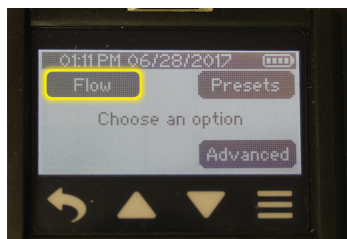

Figure 4. Multiple-tube Flow Rate Verification Train - Constant Flow
2. Press tubing from the outlet (unlabeled side) of a Constant Pressure Controller (CPC) onto the pump inlet (*Figure 4*).
3. Press tubing from the 224 Series Multiple-tube Low Flow Holder onto the CPC inlet (labeled "To Sample" - *Figure 4*).
4. Break tips off a representative sorbent tube and insert (arrow printed on tube pointing toward the pump) into the rubber sleeve of a 224 Series Multiple-tube Low Flow Holder (*Figure 4*). Repeat for additional tubes up to the maximum number of holder ports or desired number of tube samples. **Important! Fill unused tube holder ports with unopened sorbent tubes to keep ports clean during sampling.**
7. Use a length of flexible tubing to connect the exposed open end of the first port sorbent tube to a flowmeter outlet (*Figure 4*).